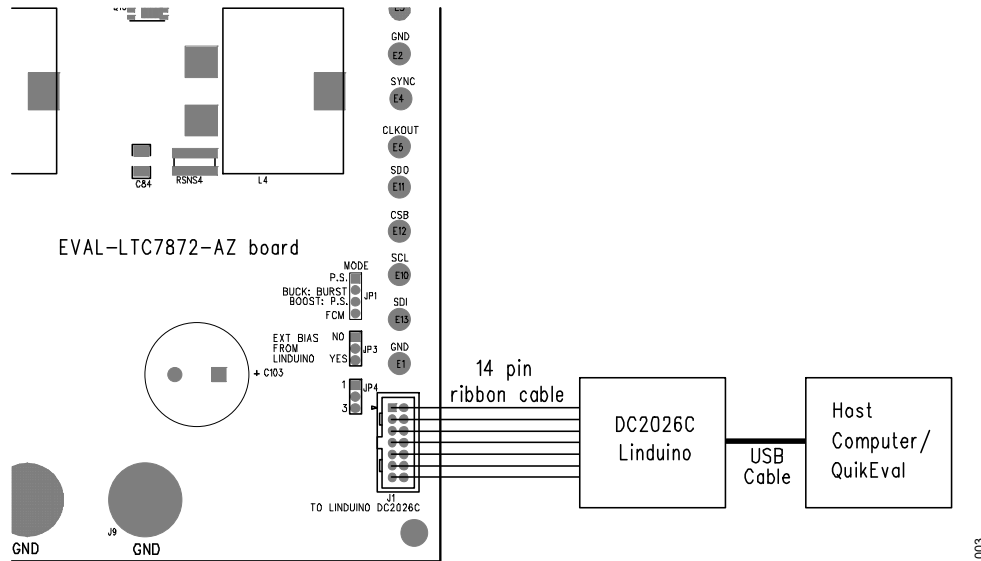

Figure 3. Connection Setup of the EVAL-LTC7872-AZ with the DC2026C Linduino Board
9. See Figure 3 for SPI setup.